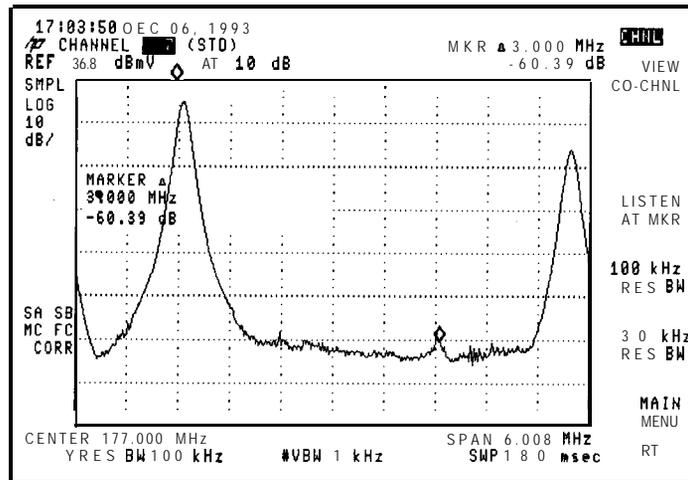

Figure 2-40. View Ingress
2. After the displayed modulation and noise are reduced with minimum hold, use the knob to position the delta marker on a signal appearing above the noise. The frequency and amplitude differences between the peak carrier level and the marker appear in the active function block. See Figure 2-40.